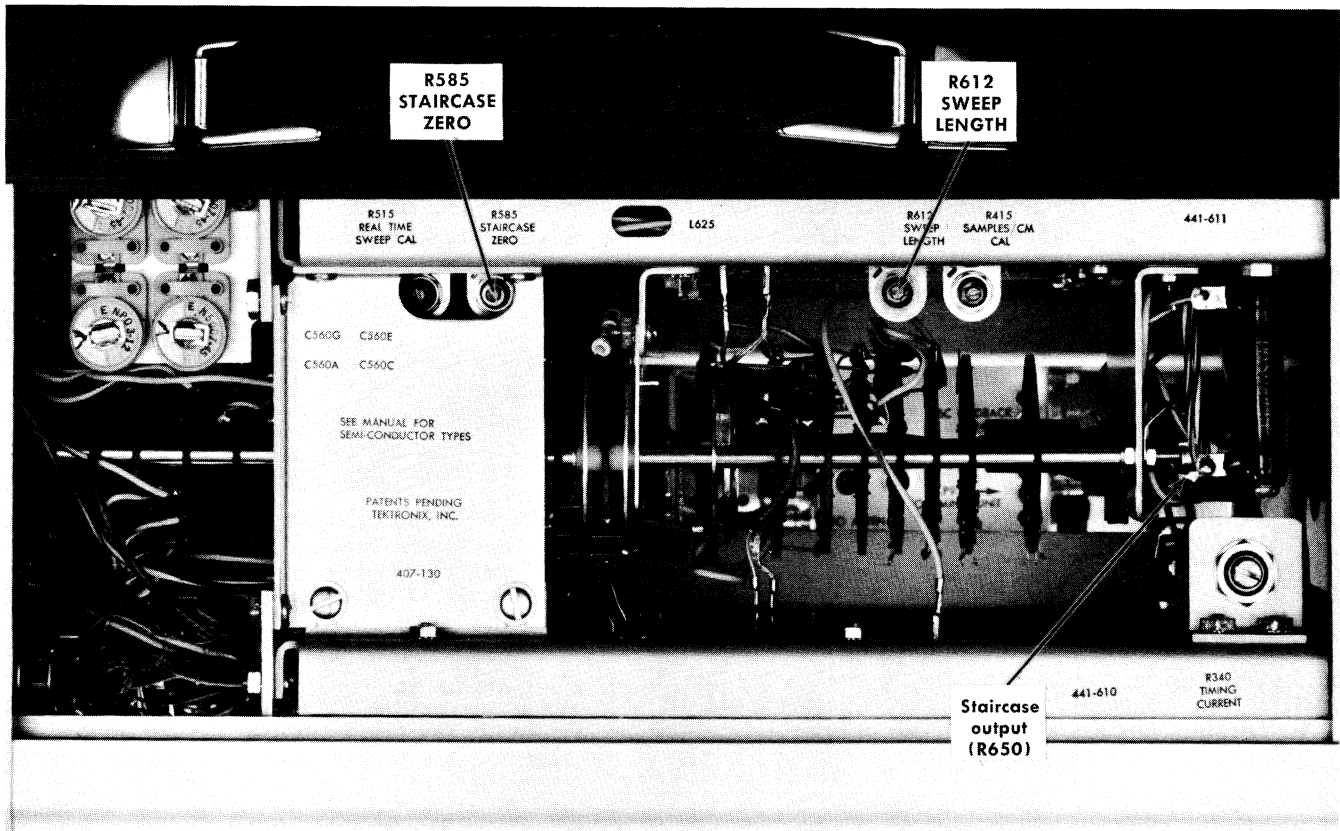

Fig. 5-11. Top view of Type 5T3 showing staircase adjustments and test points.
- d. Connect the probe to the staircase output on R650 (Equivalent Time/Cm VARIABLE) shown in Fig. 5-11.
- e. **Adjust** R612 (SWEEP LENGTH) for a staircase amplitude of 52.5 volts if it was not within the 51- to 55-volt range. See Fig. 5-11 for the location of R612. The length of the sweep on the crt of the Type 661 should be 10.5 cm if the staircase amplitude is 52.5 volts. If not, the oscilloscope horizontal amplifier is not calibrated correctly.